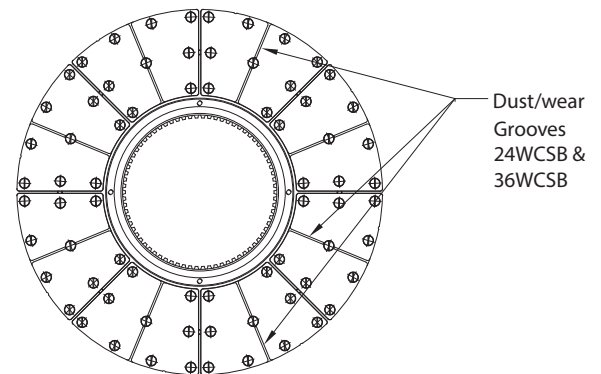

Figure 6
The friction material is fully worn when the wear has reached the bottom of the wear groove or notch as shown in Figure 6.
(c) Verify that the air pressure has been fully exhausted from these chambers by checking any in-line gauges (they should read zero pressure), and also by inspecting specific gaps between components as noted below. Refer to Figures 6 and 6A for the corresponding gap locations.
- (d) Measure gaps between the components at positions W, X, Y-1, and if applicable, Y-2, and Y-3. See Figures 6, and 6a for the location of those gap positions.